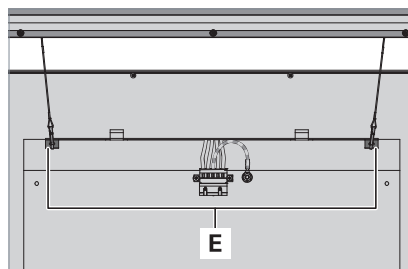

Fig. 7: Mounting the direct light element.
- ▶ Hang the direct light element into the two hooks **E** located on the luminaire frame, see Fig. 7.